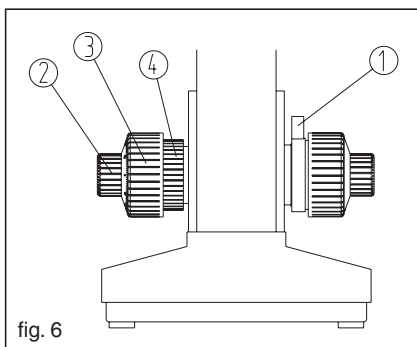

fig. 6
The instrument used coaxial coarse/fine focusing mechanism. The adjustable tensional knob ④ used for adjusting the tension of the coarse focusing knob ③ to prevent the stage from naturally sliding down. The limit knob ① prevents accidental specimen/objective contact. ② is fine focusing knob.( Fig.6)